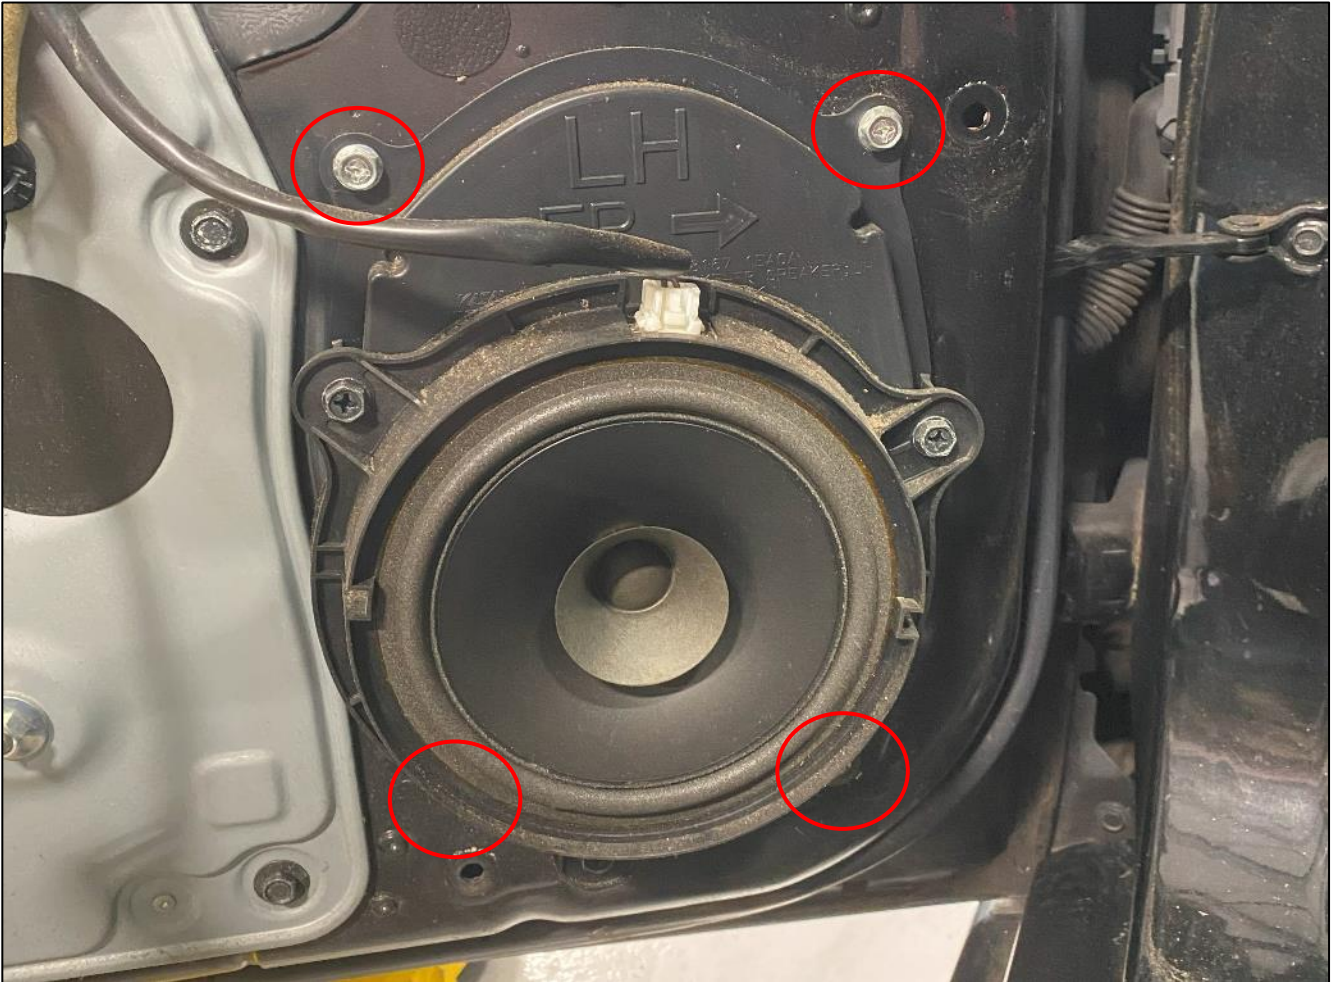

Figure 43
11. Disconnect the (4) four 10mm Bolts securing the Speaker to the Door. *Figure 43.*